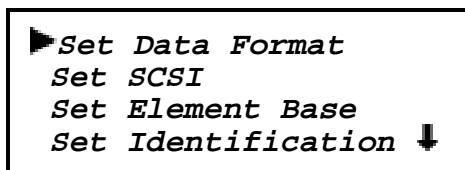

Figure 2-25 Configure Submenu
3. Press the ▼ button three times to move the ► to Configure Menu, then press the **Enter** button. The display will show the Configure submenu, as shown in Figure 2-25. Note that the ↓ at the end of the fourth line means that there are additional configuration options that can be reached by scrolling with the ▼ button.
7. Press the **Escape** button repeatedly until the submenu in Figure 2-25 reappears.